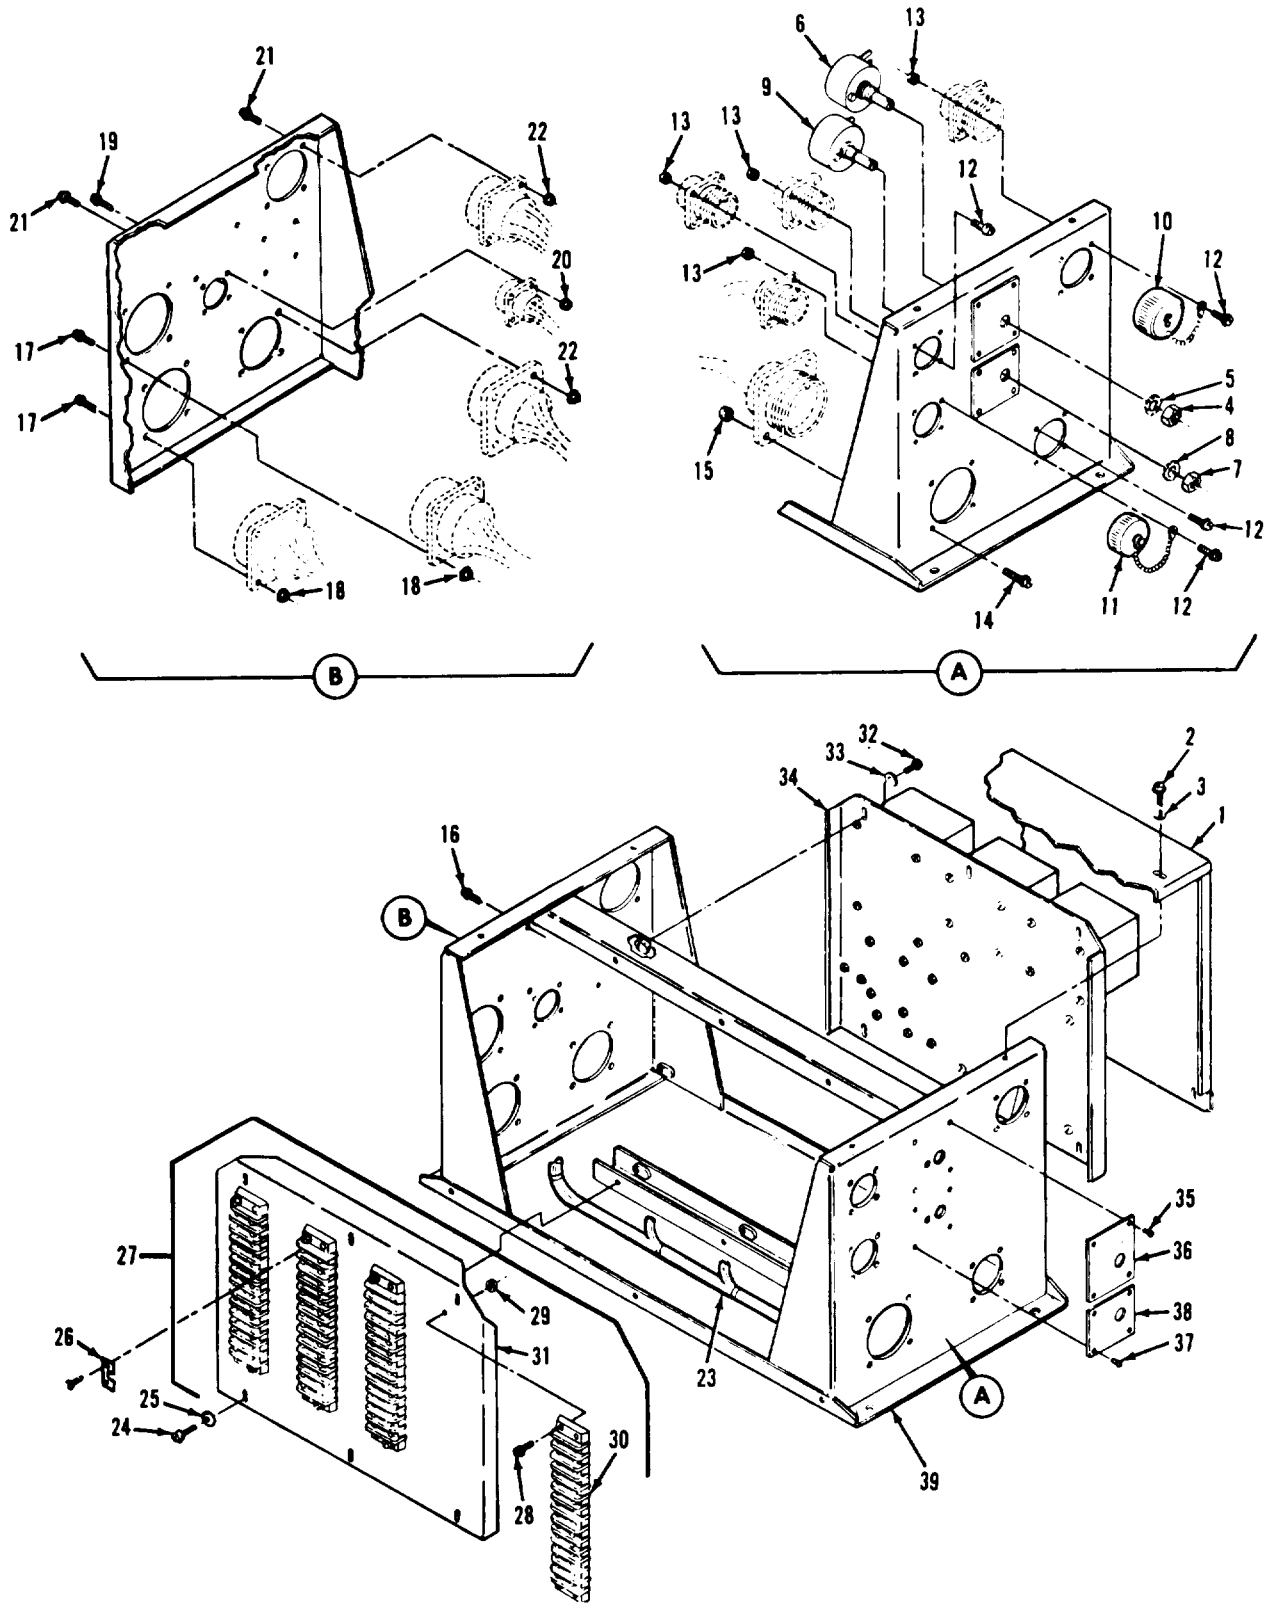

Figure 6-34. Mode II relay box assembly (A27), exploded view
Legend to figure 6-34:
g. Remove nuts (4 and 7, figure 6-34) and washers (5 and 8) securing rheostats (6 and 9) to chassis assembly (39).
h. Remove wire harness (23) by removing the four screws and nuts securing each of the ten connectors to the chassis assembly (39).
6-134. REASSEMBLY. Refer to figure 6-34 and reassemble the mode II relay box assembly in reverse order of index numbers assigned. Pay particular attention to the following:
h. Secure cover (1, figure 6-34) to chassis assembly (39) using ten screw assemblies (2) and washers (3).